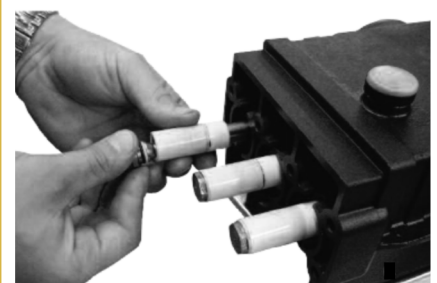

Fig. 9 — Pressing the plunger bolt, fitted with new O-ring and backup ring, into the new plunger.
- 5 Carefully press the plunger bolt into the new plunger (Fig. 9).